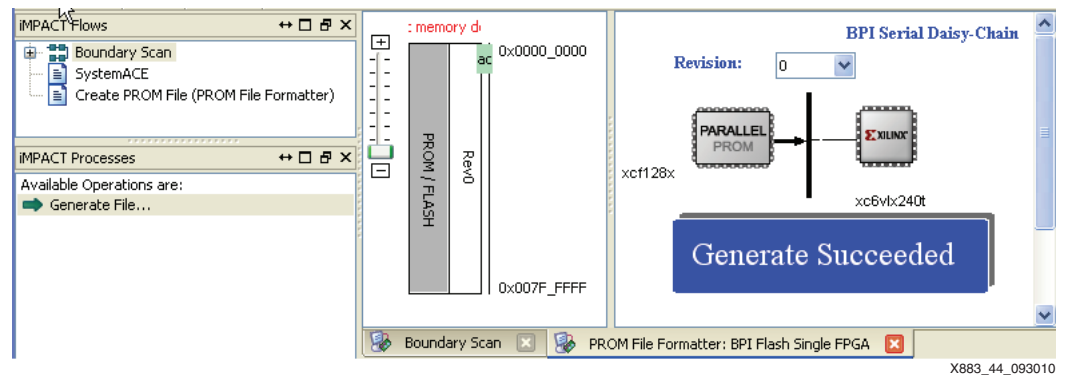

Figure 44: Successful PROM File Generation
16. Click **Generate File...** under iMPACT processes. The PROM file is created after a short moment (see Figure 44).